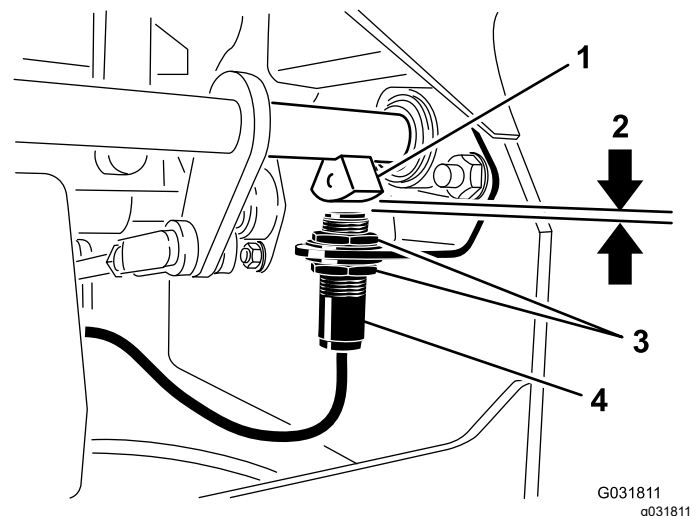

Figure 46
4. Move the switch up or down on the bracket until the distance between the brake-shaft sensor and the switch plunger is 4 mm (5/32 inch) as shown in Figure 46.